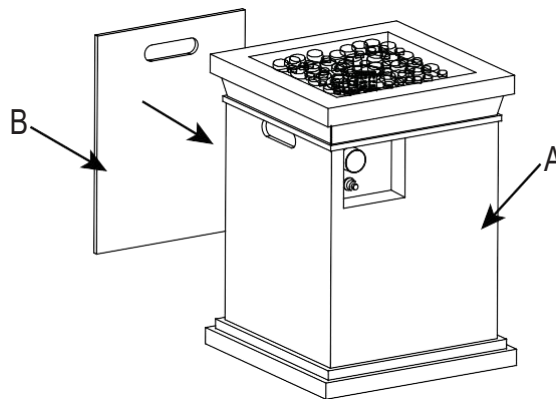

Figure 4
- Attach the door (B) with fire table (A) tenderly (See Figure 4).